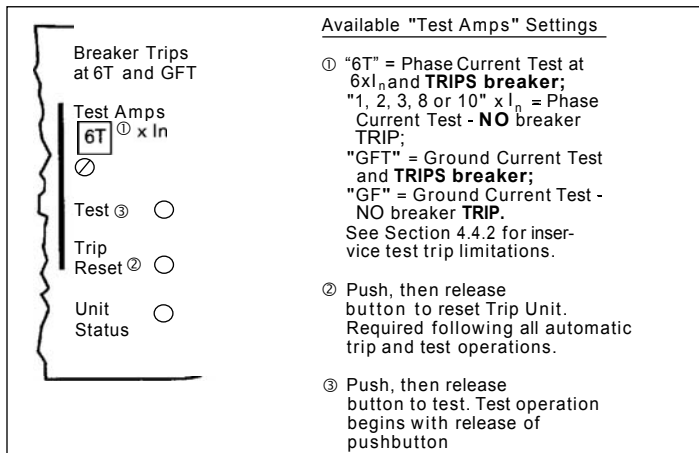

Figure 20. Integral Test Panel (Lower Right Corner of Trip Unit).
As indicated in Figure 20, Note 1, six different "Test Amps" settings (1, 2, 3, 6T, 8 and 10 x I_n) are available for testing the phase elements of the Trip Unit, and two settings (GF and GFT) are provided for testing the ground element.
1. Place the "TEST AMPS" selector switch (see Figure 20) in one of the six "No Trip" test settings, i.e., 1, 2, 3, 8, or $10 \times I_n$, or GF.
2. Place the "TEST AMPS" selector switch (see Figure 20) in either the "6T (or "GFT) position.
3. Press and release the (Black) "TEST" push-button (see Figure 20) - the test starts when the push-button is released and the elapsed time is displayed in the window.
5. Reset the Trip Unit by pressing and releasing the "Trip Reset" push-button (see Figure 20). All LEDs lighted by the "Trip" test action should turn "OFF, and the display window will again show the value of current flowing in the breaker.